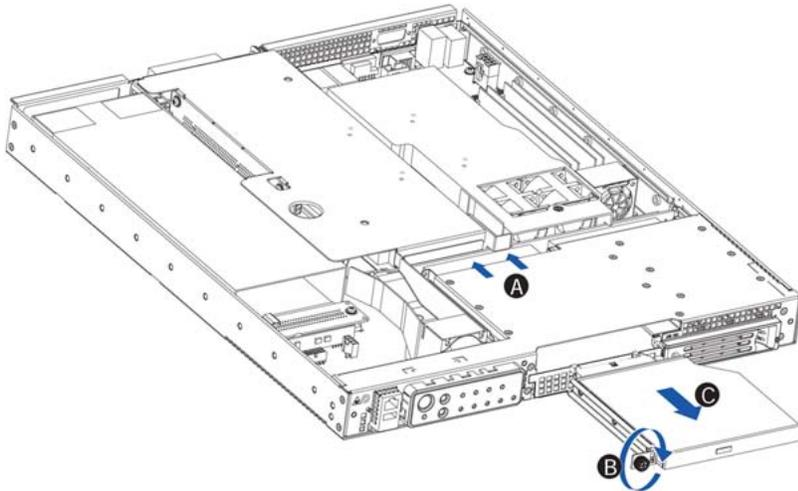

Figure 22: Removing DVD-ROM drive assembly from chassis
12. Attach the backplane to the replacement drive, using the screws removed in step 9. For details, see A in Figure 22: Removing DVD-ROM drive assembly from chassis on page 86.